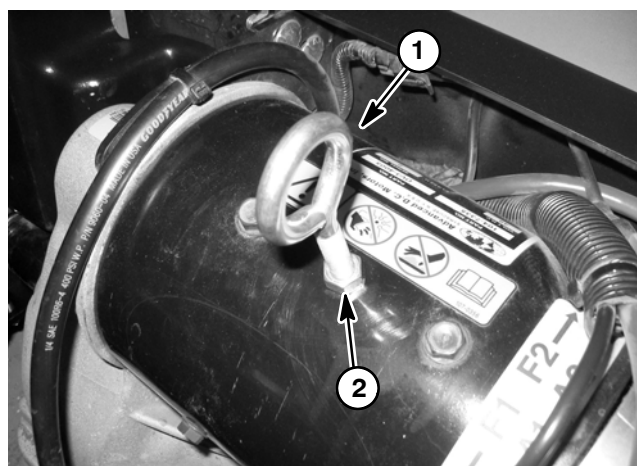

Figure 53
- A. Remove silver flange head screw from top of motor and carefully install a 3/8 - 16 eyebolt into motor (Fig. 53). Thread eyebolt into motor approximately four (4) turns taking care to not bottom eyebolt into internal field coils. Secure eyebolt with jam nut. Use eyebolt for support and as a lifting point for motor removal.
7. Remove six (6) socket head screws (item 1) and flat washers (item 2) that secure motor to transaxle.
10. If needed, remove two (2) roll pins from motor shaft.